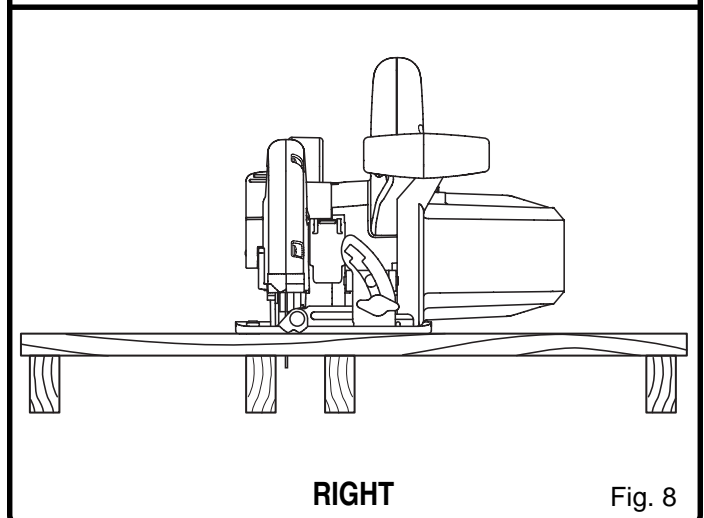

Fig. 8
- To avoid pinching the blade, support the work properly before beginning a cut. The right way to support large pieces of work are shown in Figure 8.